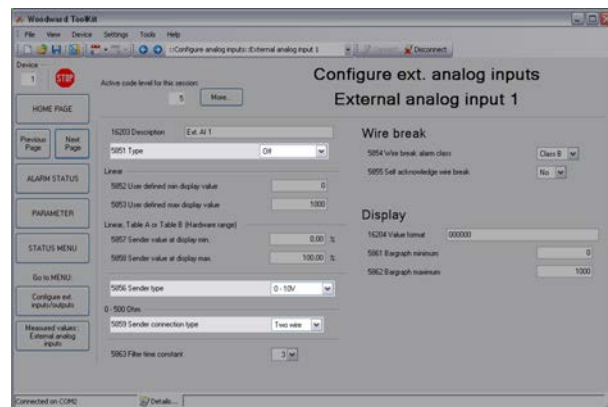

Fig. 243: Setup of external AIs
- Set up the external analog inputs using the ToolKit screen shown in (Fig. 243).